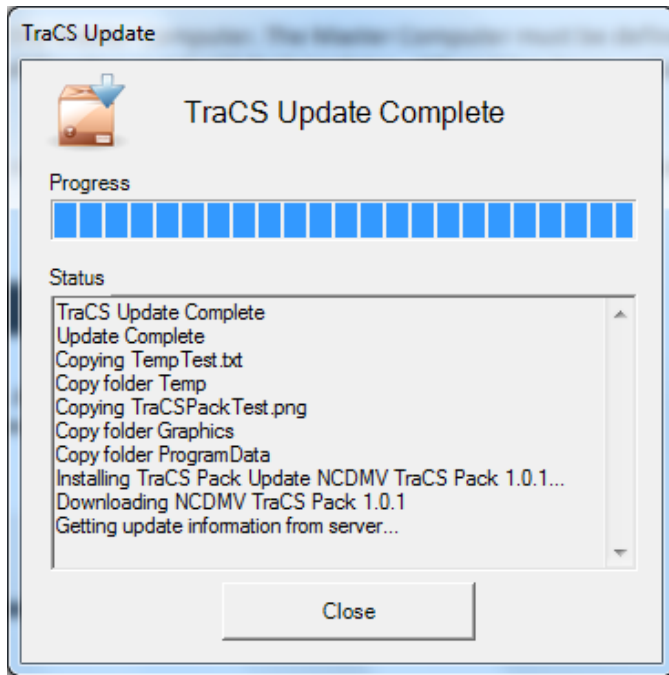

Figure 157. TraCS Update Window
3. Click **Yes**. The **TraCS Update** window opens, as shown in Figure 157.